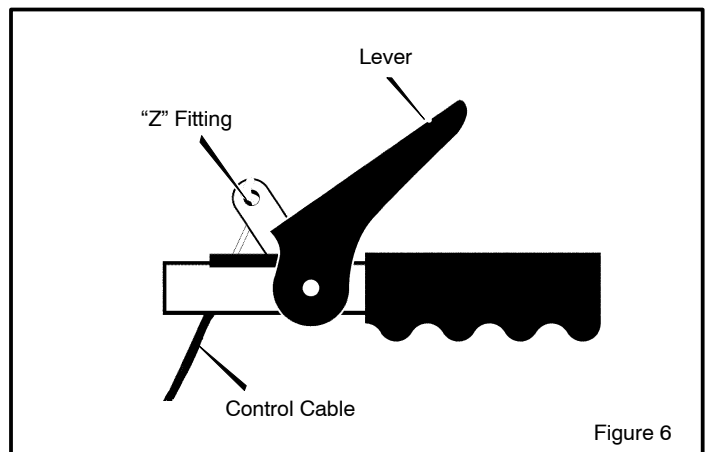

Figure 6
**NOTE: If the cables have become disconnected from the drive levers, reinstall the cables as shown in Figure 6.**